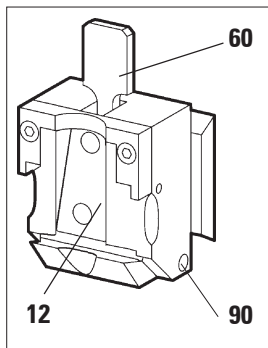

Fig. 34
- The movable parts of the fixture for specimen clamps (10) and of the dovetail mortise (14).
- The T-piece (19) on the microtome base plate.
- Clamping levers (2) and (20) on the microtome
- Guide rails (91) for the knife holder base on the microtome base plate.
- Clamping levers (39) and (24) on the right and left side of the knifeholder base.
- Guide rail (92) of the lateral displacement mechanism on the knife holder base (21).
- T-piece (26) on the knife holder base (21).
- The sliding surfaces of knife guard (3) and knurled nuts (73) on knife holder N.
- Clamping lever (89) of knife holder E.
- Axle (90) of the clamping lever of the cassette clamp (see Fig. 34).